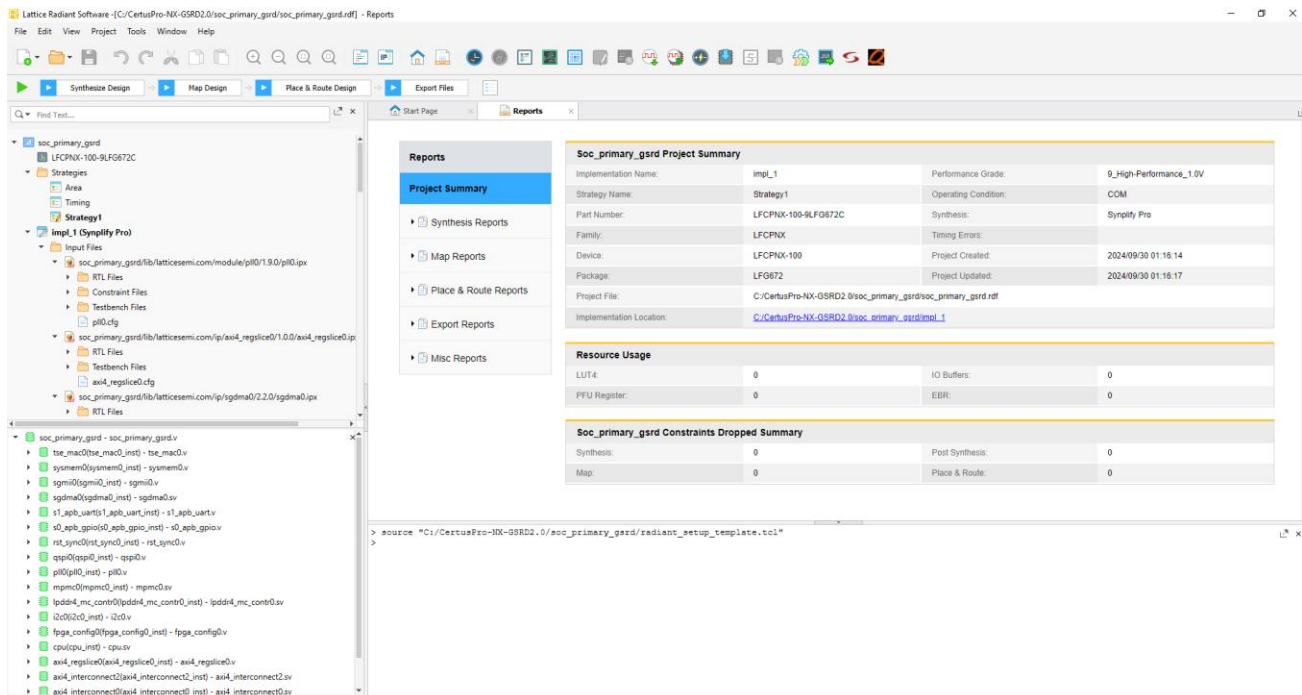

Figure 8.48. Lattice Radiant 2024.1 Window
- The Radiant window of your project is launched as shown in Figure 8.48.